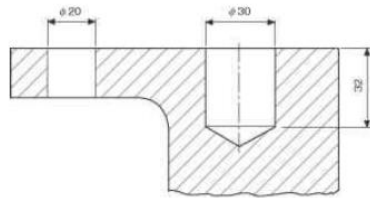

Figure 7.2. Boring and reaming operation
1. Perform the boring and reaming operation on a rectangular work piece to obtain the required dimensions using vertical milling machine as shown in Figure 7.2.